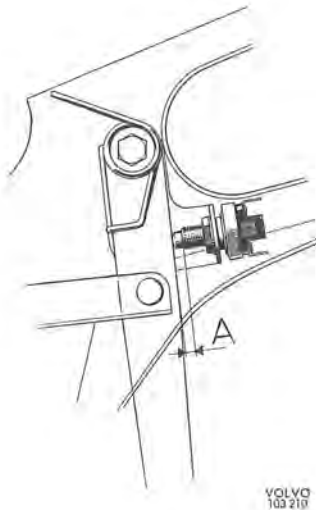
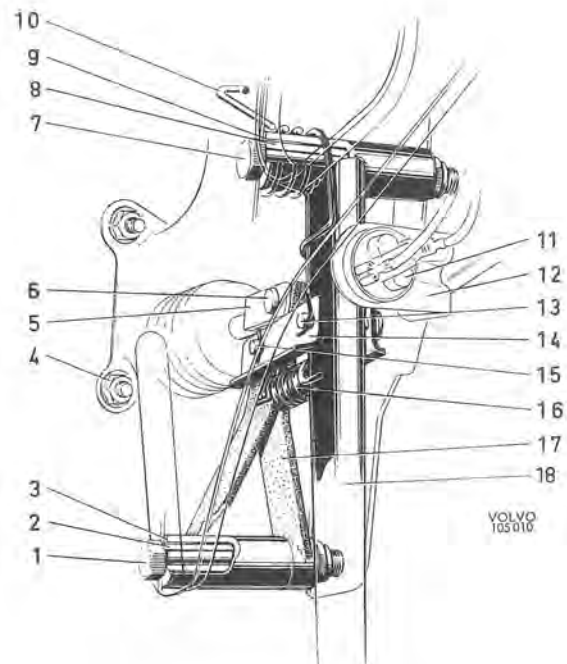

Fig. 5-66. Adjusting brake light switch
Fig. 5-67. Brake pedal suspension components
Check the distance from the brass hub on the brake light switch to the brake pedal, see Fig. 5-66, when the brake pedal is released. The distance should be 4 ± 2 mm (0.16–0.08"). To adjust, slacken the screw for the bracket (12, Fig. 5-67). Remember to tighten the screw after adjustment.
2. Remove the bracket (12, Fig. 5-67) for the brake light switch (11). Remove the split pin and bolt (13). Unhook the return spring (10) and the spring (16). Unscrew the nut for the bolt (7) and pull out the bolt.
3. Lift out the pedal (18).
4. Fit the new pedal bushes (9) and lubricate the bearing sleeves (8) with a light layer of ball-
2. Remove the bracket (12, Fig. 5-67) for the brake light switch. Remove the split pins and bolts (6—13). Unhook the return spring (10) and the spring (16). Unscrew the nuts for the bolts (1—7) and remove the screws.
3. Lift out the pedal (18) and the link arm (17).
3. Remove the bracket (12, Fig. 5-67) for the brake light switch.
4. Fit the bracket (12, Fig. 5-67), and adjust the brake light switch (11), see under "Adjusting brake light switch" on page 5 : 26.
2. Disconnect the link arm (16, Fig. 5-67) from the brake pedal. Remove the bracket with clutch pedal stop from the cowl.
1. Check that the rubber cover (35, Fig. 5-67) is pressed down properly at the protective washer for the cleaner. Secure the fork to the link arm. Push in the power cylinder so that the attaching bolts come into position.